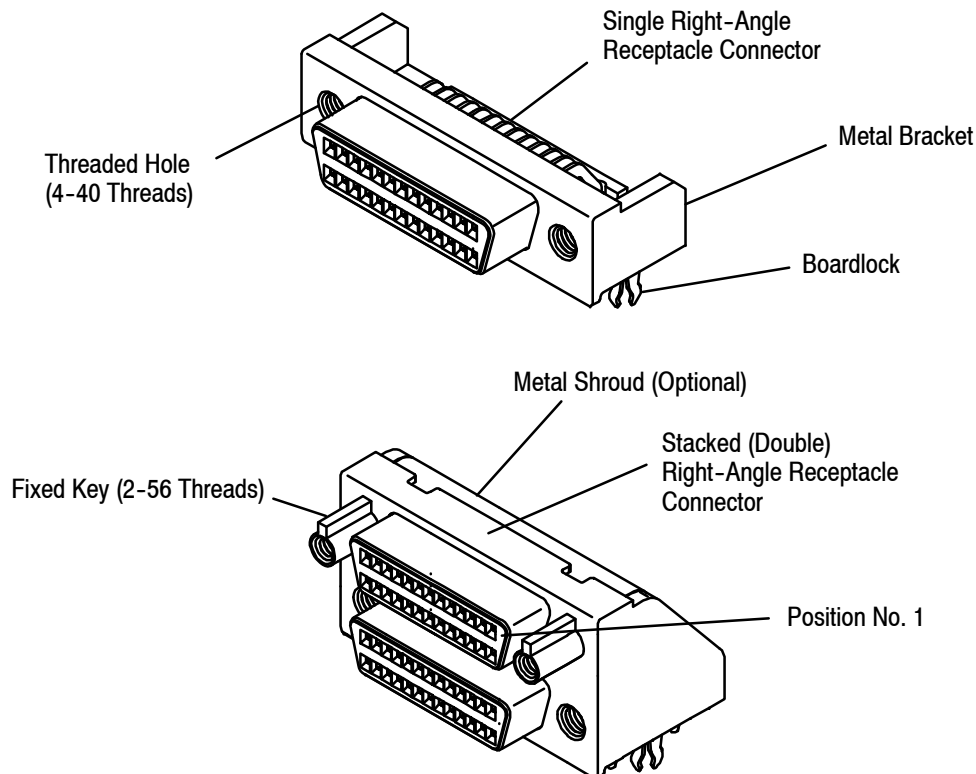

Figure 1
Figures 1 and 2 provide connector features referred to throughout this specification. Use these terms when corresponding with Tyco Electronics Representatives to facilitate assistance.
The receptacle connectors are available in two configurations: single and stacked (double) right-angle mounts. The single right-angle connectors feature boardlocks and a metal bracket with threaded holes. The stacked right-angle connectors feature two receptacles in a bracket with boardlocks, solder posts, and an optional metal shroud. Stacked connectors are available with fixed keys that have 2-56 threads in the two top holes and two 4-40 threaded holes in the bottom, or without keys and four 4-40 threaded holes in the bracket. See Figure 1.
- Changed, deleted, or added artwork in Figures 1, 2, 5, 6, 13, 17, 18, and 19
One of the contact cavities in the top of each connector is marked with the number 1 to provide circuit orientation. See Figure 1.